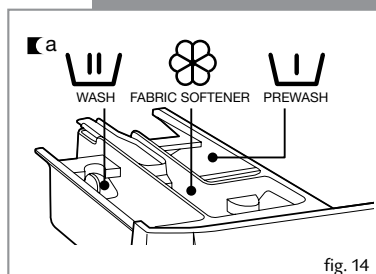

fig. 14
- Add the detergent or additive to the detergent dispenser before starting the wash programme (Figure 14).